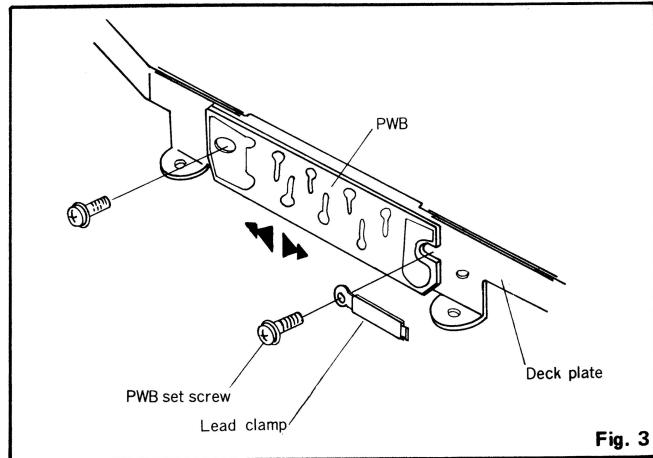

Fig. 3
3. Adjusting head selector switch 013-3066-00 (See Fig.3)